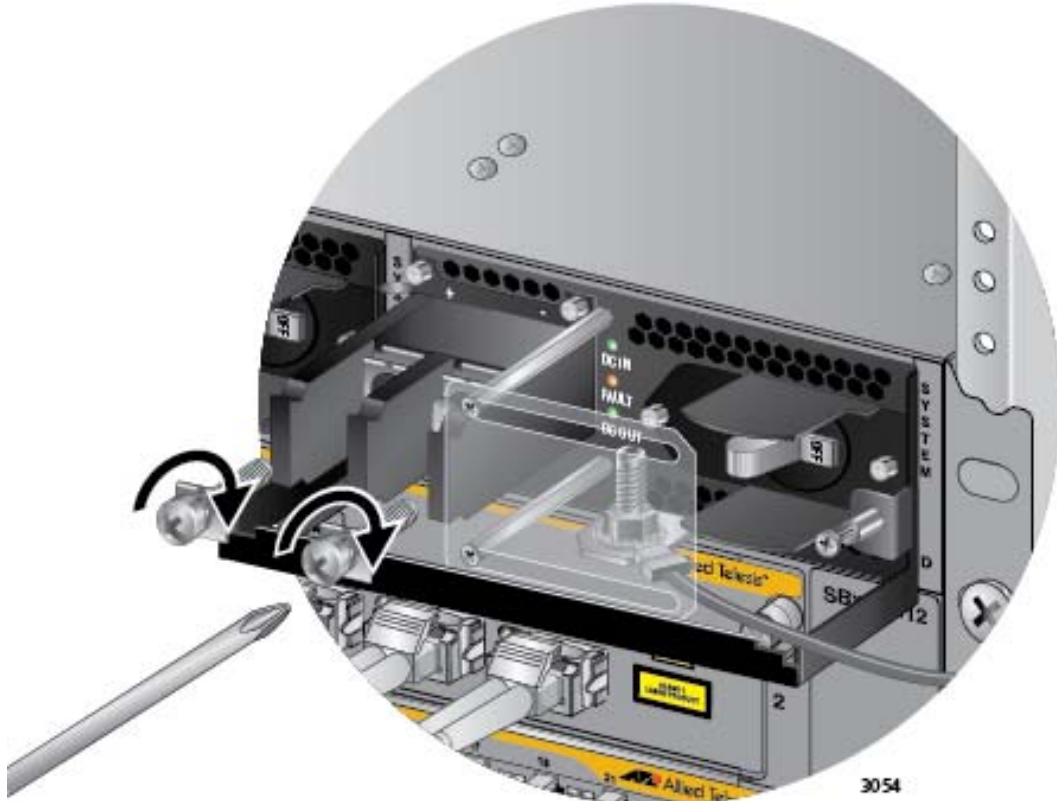

Figure 138. Reinstalling the Screws on the Positive and Negative Terminals
7. Reinstall the two screws on the negative (-) and positive (+) terminals. Refer to Figure 138 on page 222.